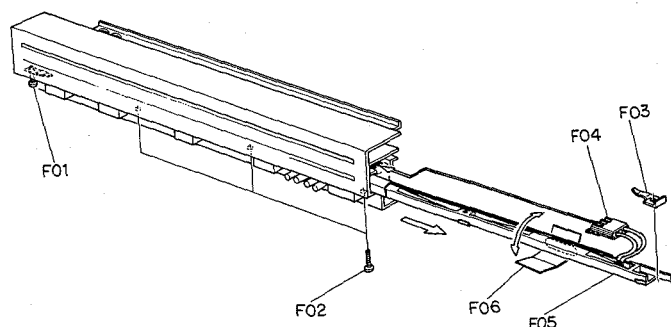

Fig. 3.6
Refer to Fig. 3.6. Remove Front Panel Ass'y referring to items 3.1 – 3.3.